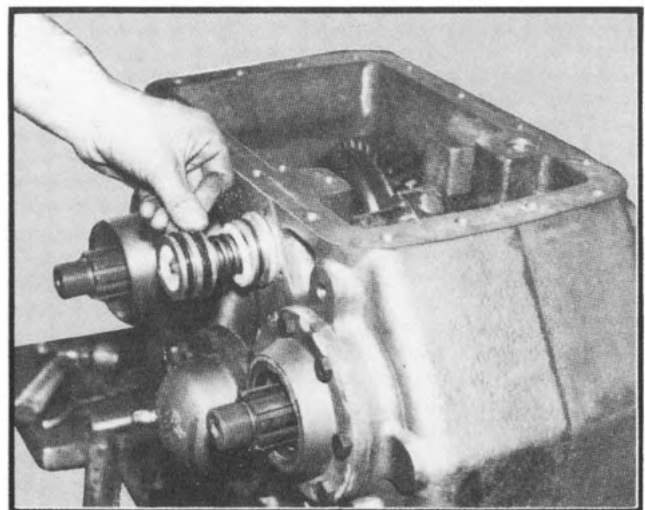

Fig. 35
8. Place an oil soaked felt wiper in shallow groove on piston and an o-ring into the deep groove (See fig. 35).
7. Place piston over shift shaft with the shallower of the two grooves toward the shaft. Make sure small o-ring on shaft is seating in chamfer in piston bore. Depress the spring with the piston and secure piston with the washer and locknut. Tighten locknut to correct torque. Place an oil-soaked felt wiper in shallow groove on piston and an o-ring in the deep groove. (See fig. 35).